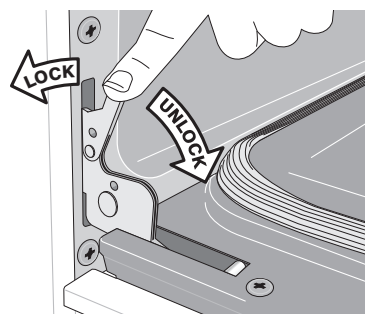

Figure 21: Hinge lock/unlock positions
2. Pull the door hinge locks on both left and right door hinges down from the oven frame completely towards the oven door (See Figure 21). A tool such as a small flat-blade screwdriver may be required.
4. Push the door hinge locks up towards and into the oven frame on both left and right oven door hinges (See Figure 21) to the locked position; then, close the oven door.